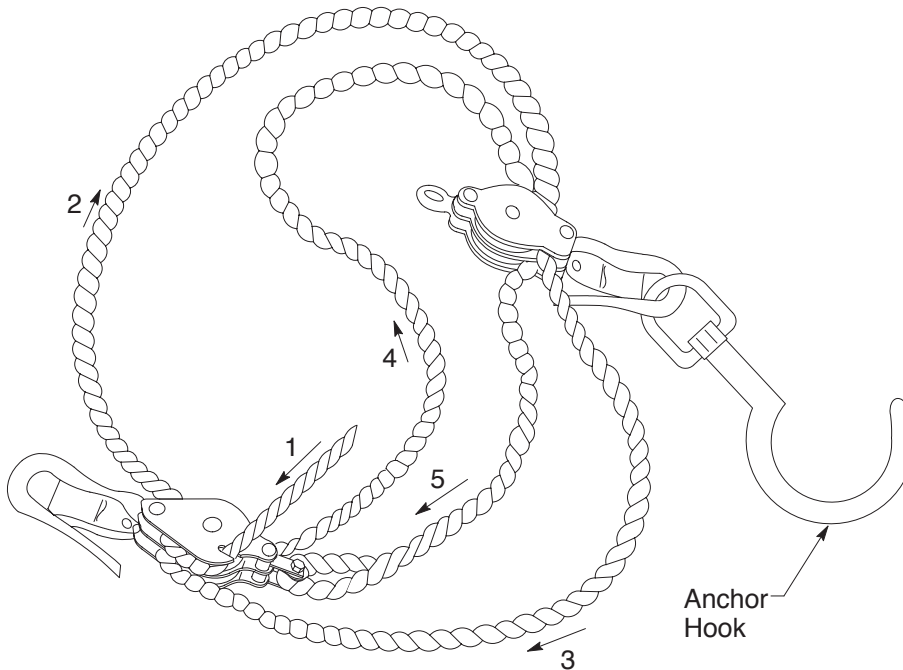

Figure 8-8
Figure 8-8 below represents a double block for 3/8-inch synthetic rope. Use 3/8-inch specification 1 or 1-II on conductors energized below 600 volts (V). Use either Code 100060 or Code 100077 when ordering this double-block system.